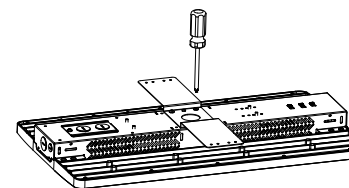

Figure 9
Step 1. Assemble the bracket onto the back of the light fixture(Figure 9).